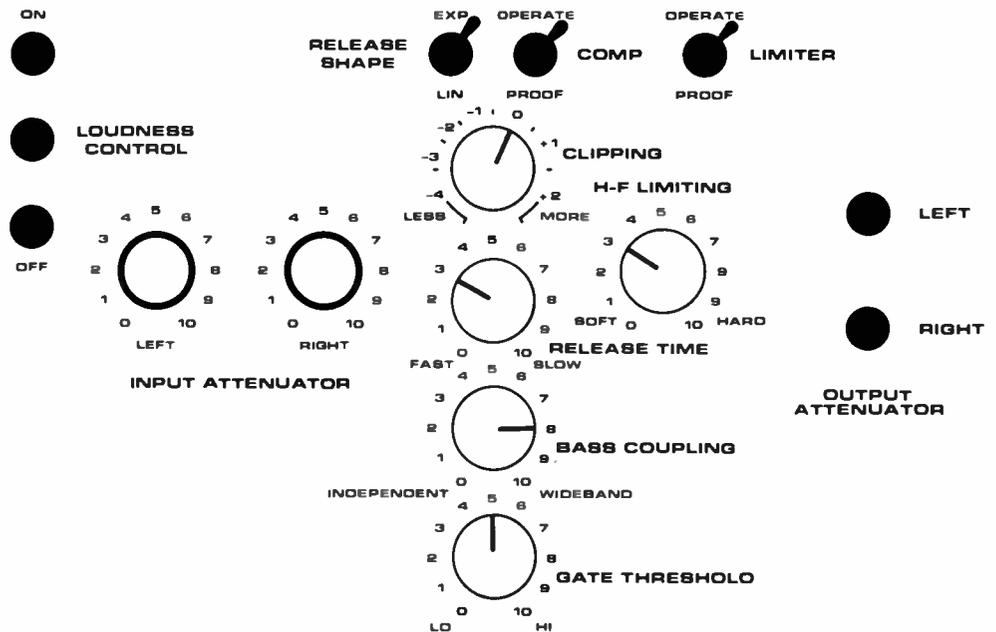

Fig. 4-5: RECOMMENDED INITIAL CONTROL SETTINGS
These listening tests are made with OPTIMOD-TV set up according to our **Recommended Initial Control Settings** in Fig. 4-5. They are intended to detect obvious problems with audio quality which must be resolved before final adjustments are made. Once initial listening tests are passed, you can proceed to adjust OPTIMOD-TV setup controls according to subjective requirements.
- a) Adjust OPTIMOD-TV controls according to Fig. 4-5. Do not adjust the INPUT ATTEN or OUTPUT ATTEN controls at this time. If you have a dual-chassis system, DO NOT READJUST THE MAIN CHASSIS INPUT ATTEN CONTROLS UNDER ANY CIRCUMSTANCES!
See Fig. 4-5 or 5-1 for recommended initial setup.
HOW TO ADJUST THE SETUP CONTROLS (Refer to Fig. 4-5 in Part 4.)